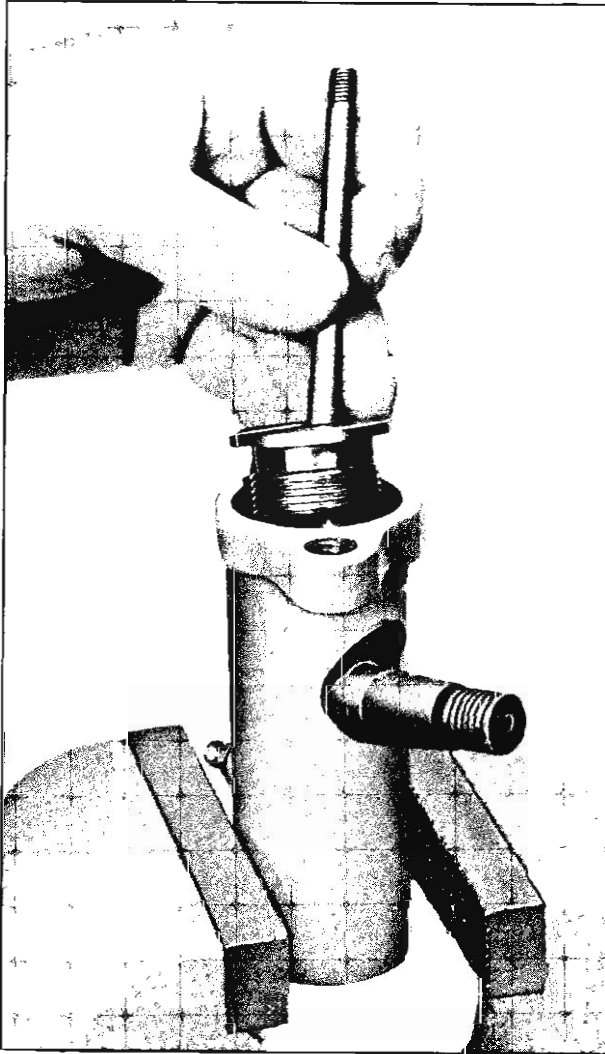

Fig. 85—Replacing Adjuster Plug and Shaft
2. Clamp the adapter in vise, put the shaft through the seat in the adjuster plug and screw adjuster plug in sleeve (fig. 85).